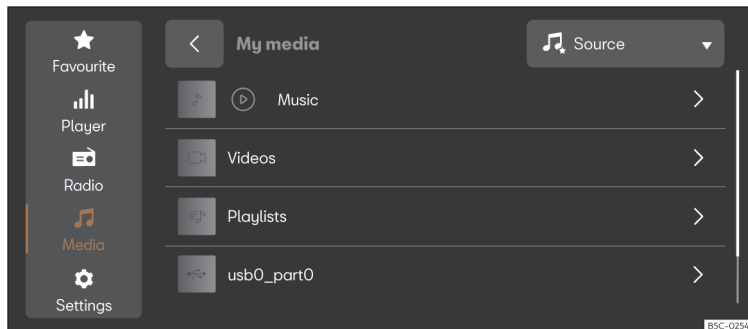

Fig. 175 Schematic representation: Media view
- Press **HOME** > > > > **Fig. 175**.